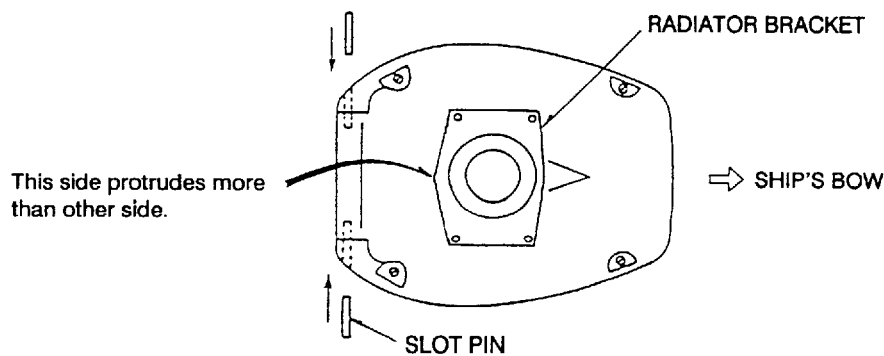
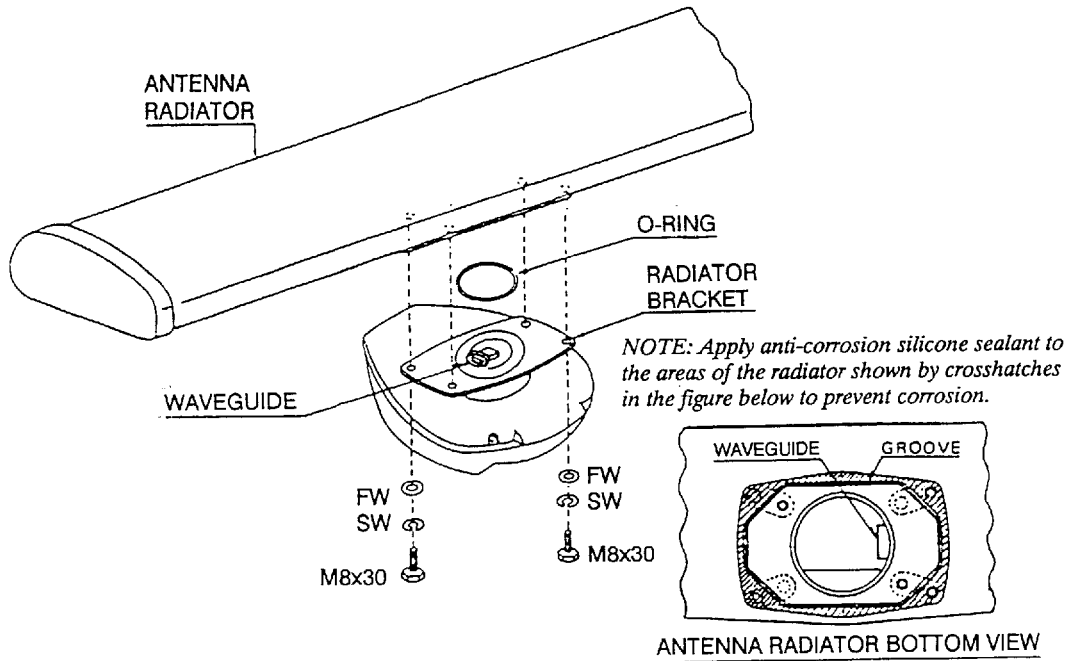

Figure 6-6 Slot Pin Insertion
Figure 6-7 Fixing the Radiator to the Scanner Housing
3. Now is the time to fix the radiator to the radiator bracket. Remove the rubber cap on the radiator bracket and orient the radiator bracket as shown in Figure 6-6. Referring to Figure 6-7, apply grease to the O-ring and set it to the center of the radiator bracket. Coat the radiator fixing bolts with silicone sealant. Fix the radiator to the radiator bracket with the FURUNO logo on the radiator facing ship's bow.